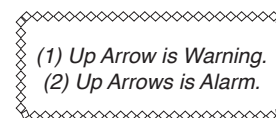

Fig. 60 - PO2 ALARM (during Audible)
If PO2 continues to increase and reaches the PO2 Alarm level, the Audible will sound again during which (2) Up Arrows and the PO2 value with icon will flash in place of Pressure (Fig. 60).